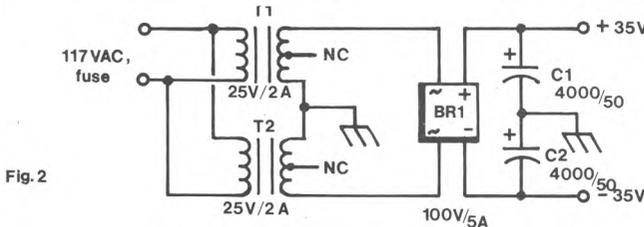

Fig.2
**Power supplies.** Pin numbers for both chips are the same and only the power supply voltage differs. The STK-050 needs +35V and the STK-070, +42V. Figures 2
**+35V Power Supply (Fig. 2)**